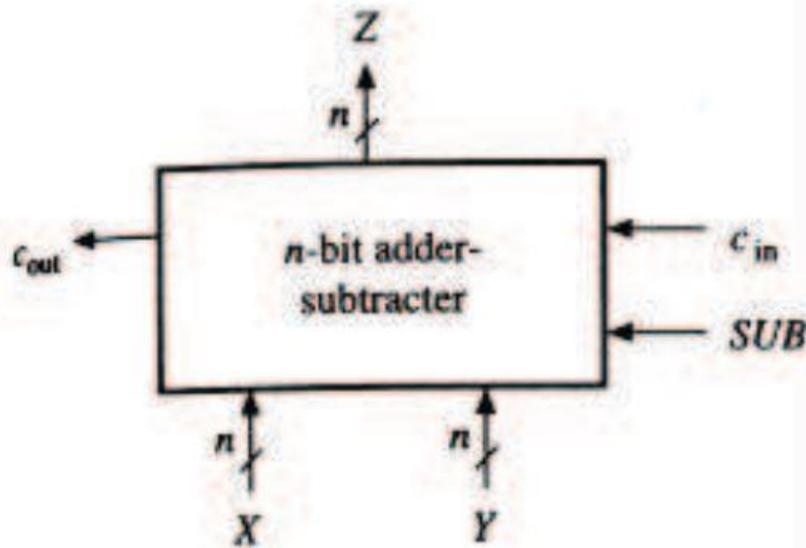

Fig. 1: An n -bit adder-subtractor circuit
- 3) Suppose the adder-subtractor circuit shown in Fig. 1 has been designed for two's complement numbers. It computes the sum $Z = X + Y$ when the control line $SUB = 0$ and the difference when $SUB = 1$. An overflow flag v is to be added to the circuit, but it is not possible to access internal lines. In other words, only those data and control lines appearing in the figure can be used to compute v . Construct a suitable logic circuit to generate v .